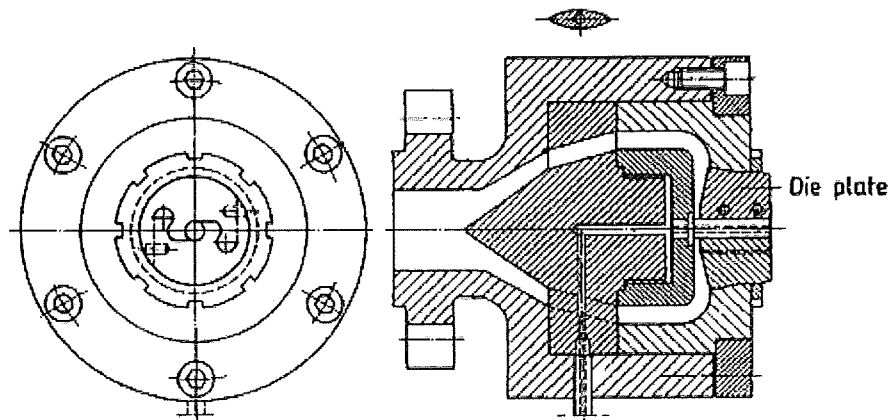

Figure 4: Profile extrusion die – Plate die
7. (a). Figure 4 displays technical drawings of a profile extrusion die. The diagrams shows that the die consists of multiple assemblies and this type of extrusion die is called plate die.